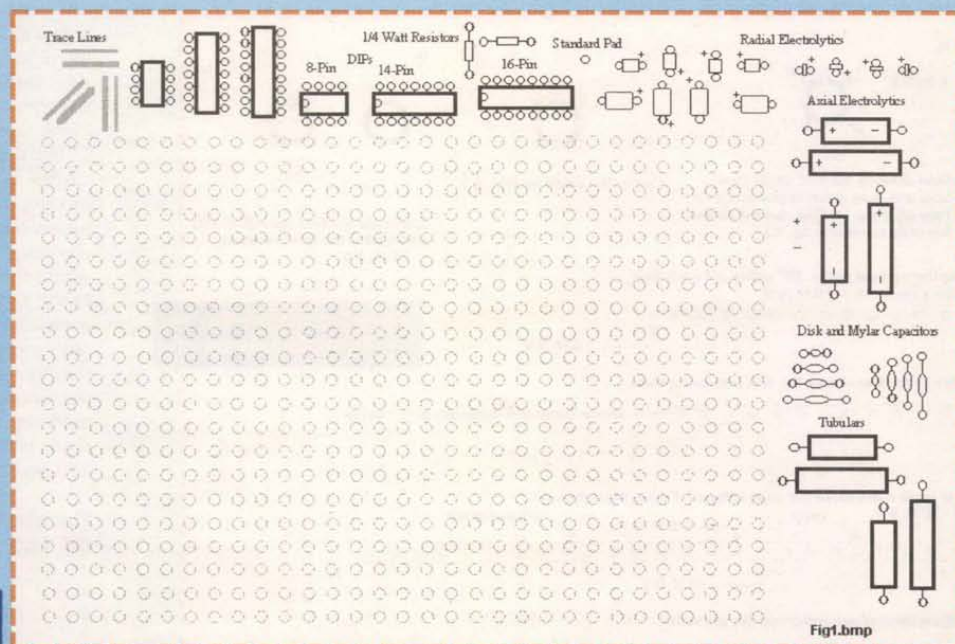

Figure 1 – Finished Template
The finished template (Figure 1) includes a variety of standard component outlines positioned
I have used the template shown in Figure 1 for several years now to design boards up to 4" x 6" for many projects; now that I have a 19" monitor, I can go to 5" x 7".
k) You will certainly need a capacitor outline .30" long at some point, so try drawing one to these dimensions. Again, create a vertical copy as well. For the template in Figure 1, I also created and added outlines on centers of .20" and .50".